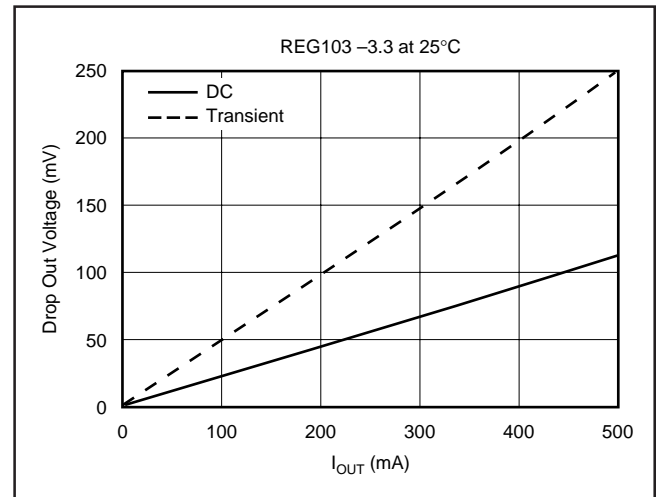

FIGURE 10. Transient and DC Dropout.
regulator's input-to-output resistance is the $R_{ds(ON)}$ of the DMOS pass element (typically $230m\Omega$). For static (DC) loads, the REG103 will typically maintain regulation down to V_{IN} to V_{OUT} voltage drop of $115mV$ at full rated output current. In Figure 10, the bottom line (DC dropout) shows the minimum V_{IN} to V_{OUT} voltage drop required to prevent drop-out under DC load conditions.
For large step changes in load current, the REG103 requires a larger voltage drop across it to avoid degraded transient response. The boundary of this "transient drop-out" region is shown as the top line in Figure 10. Values of V_{IN} to V_{OUT} voltage drop above this line insure normal transient response.